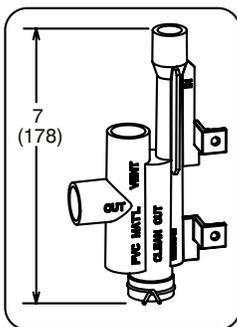

FIGURE 51
- 4 - Install drain trap using appropriate PVC fittings, glue all joints. Glue the provided drain trap as shown in FIGURE 50 or FIGURE 51. Route the condensate line to an open drain.